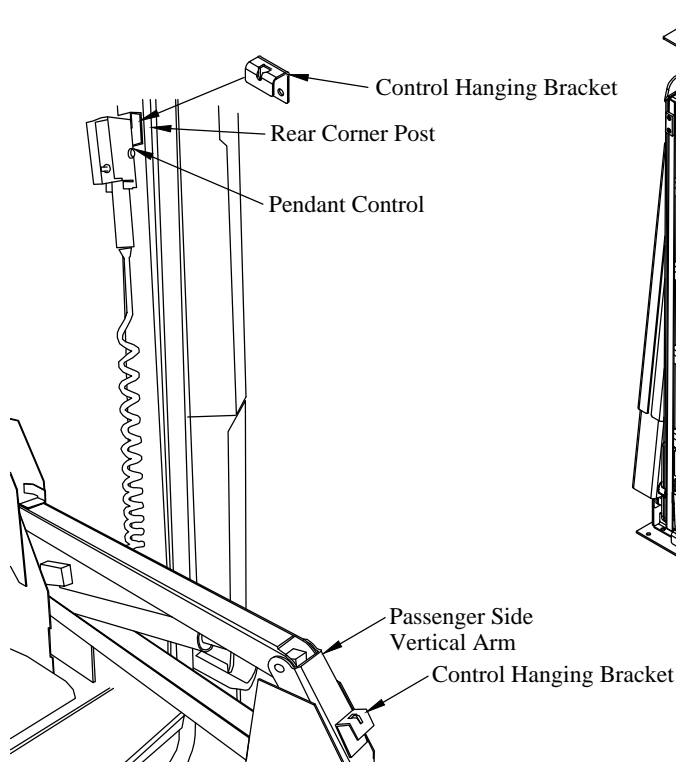

Figure 20: Control Hanging Brackets.
7. **Select** a location to install the control hanging bracket. Use a location on the passenger side rear corner post of the van at a height that allows the entire pendant cord to be completely inside the van when stored (Figure 20).
9. **Install** the limit switch cover with 5/16" bolts and nuts. Be careful not to over tighten the 5/16" bolts (Figure 20).